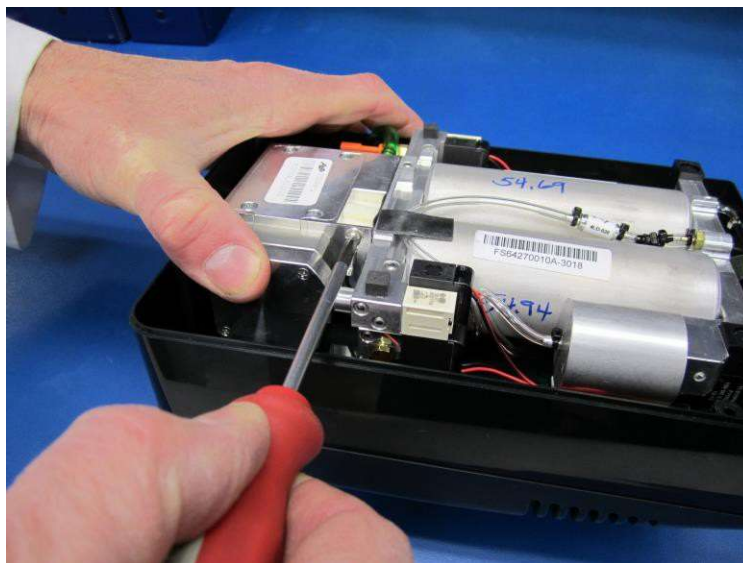

Figure 5.10
10. Disconnect the black ground wire, (connected to the compressor on its upper right side near the air inlet filter) using a Phillips screwdriver. (See Figure 5.10.)